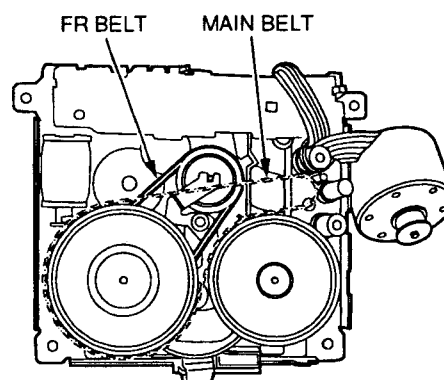

Fig. 3-22
- 3) Unthread the MAIN BELT and replace the FR BELT as shown in Fig. 3-22.